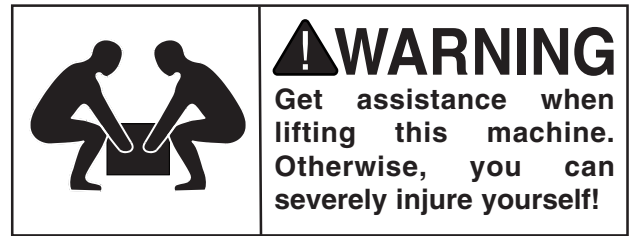

Figure 8. Left Panel installed.
8. Position the left panel between the front and rear panels, and secure it in place with six M6-1 x 12 Phillips head screws and flat washers (see **Figure 8**).